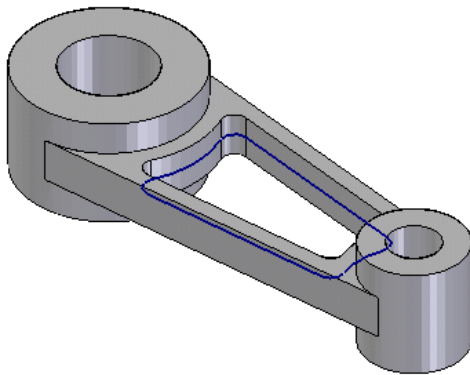

Figure 5-65 Model after creating the cutout
- d. Create a cutout in the second feature using the sketch, refer to Figure 5-65.
5. Exit the **Cutout** tool. The model, after creating the cutout, is shown in Figure 5-65. This figure also shows the sketch because its display is not turned off.